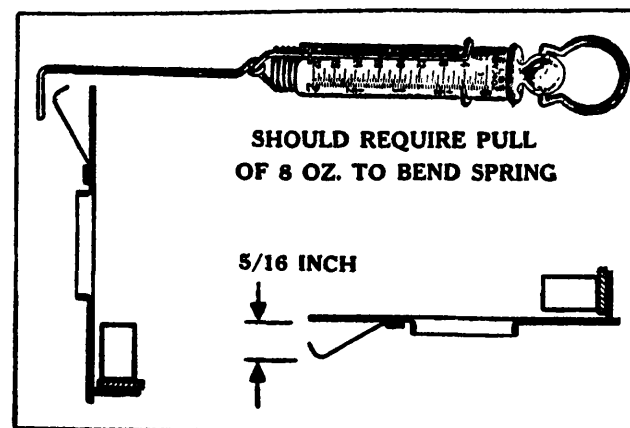

Fig. 11
3. Inspect spring on bottom of breaker plate assembly. Make sure the spring is not worn or cracked. The distance between the bottom of the breaker plate and the top of the spring should not be less than 5/16 inches. It should require a pull of at least eight ounces to cause the spring to deflect (see Fig. 11).